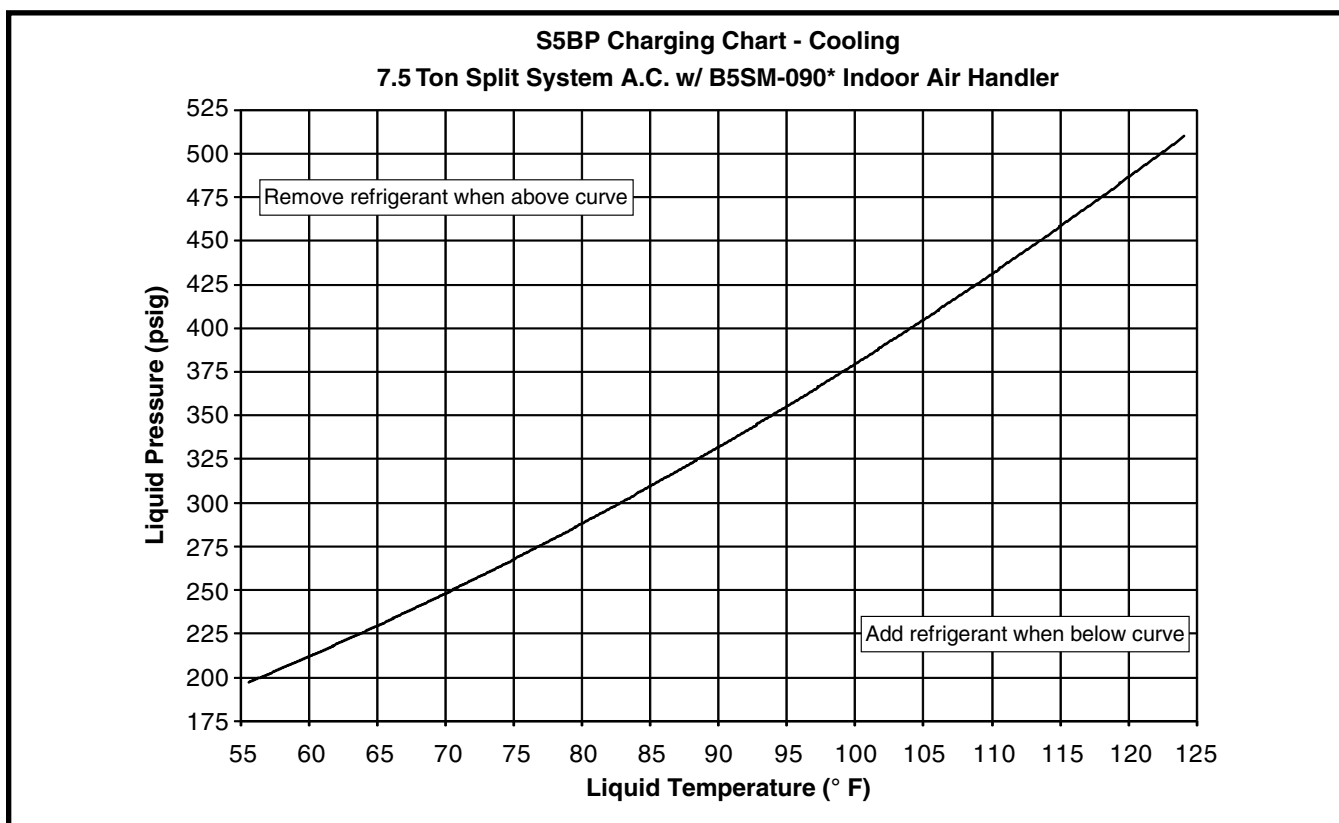

Figure 4. Charging Chart for 7.5 Ton Units
- The refrigerant charging charts are valid for a variety of indoor return air conditions and are most influenced by the outdoor ambient temperature, outdoor fan operation, and the unit operating voltage. Before using these charts, ensure the unit is in a stable operating mode. As shown in Figures 4 or 5 (page 15), the ideal system sub-cooling can vary over the range of operation. Reference the charts to determine the ideal amount of sub-cooling for a given liquid pressure. Units charged to other values will not perform at the rated unit efficiency (EER) or rated Coefficient of Performance (COP) in heating mode.